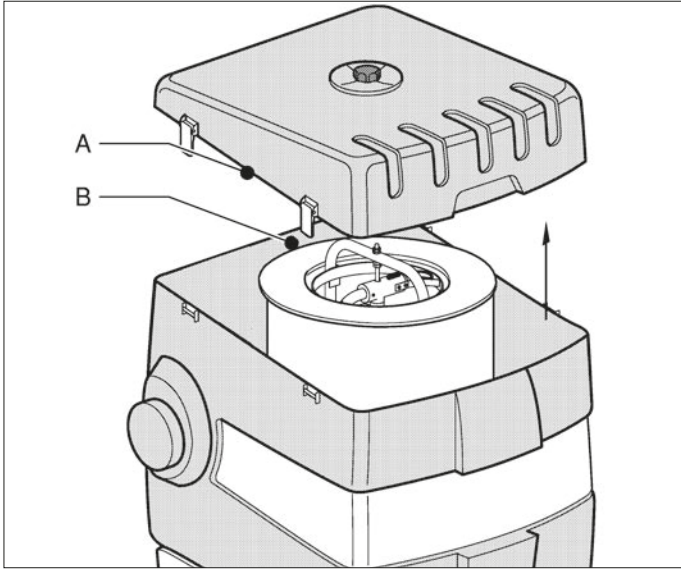

Fig. 6.1
- Remove the filter cover (Fig. 6.1 A) by loosening the star knob and loosening the four clips.
- Remove the filter (Fig. 6.1 B). It is recommended to clean the filter compartment using an industrial vacuum cleaner.